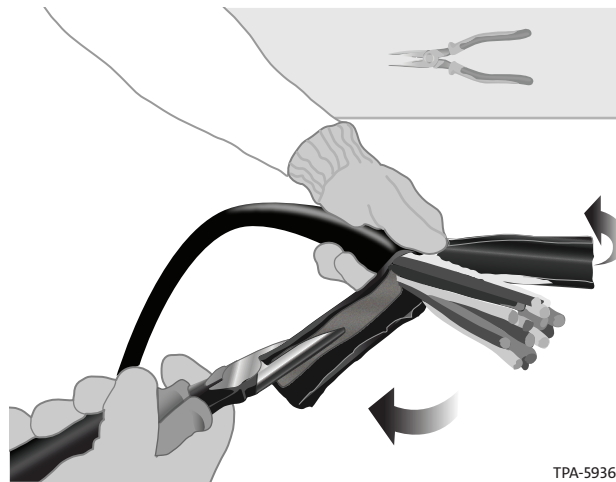

Figure 14
Step 4: Remove outer jacket using needle-nose pliers to reveal the water-blocking tape and subunits (Figure 14).